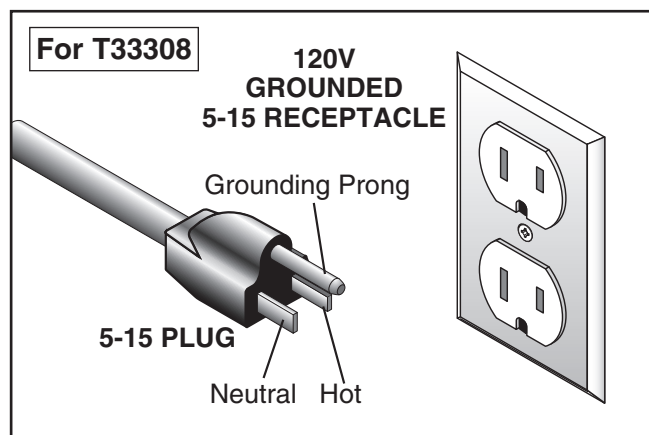

Figure 2. NEMA 5-15 plug and receptacle for Model T33308.
2. Plug switch box into proper power receptacle (see **Figures 2–3**).